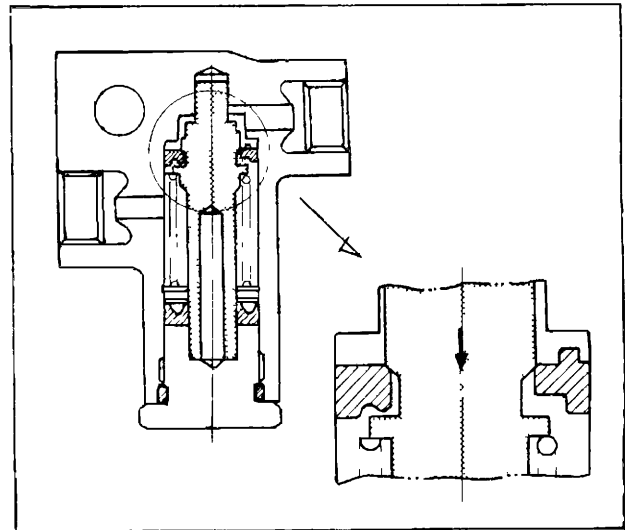

Fig BR-12(a) Plunger and seal operation when releasing
As master cylinder side pressure is reduced further lower than the rear wheel cylinder side, the seal drops some more [refer to Figure BR-12(b)], and keeping balance of equation (1) the wheel cylinder side pressure is reduced also.